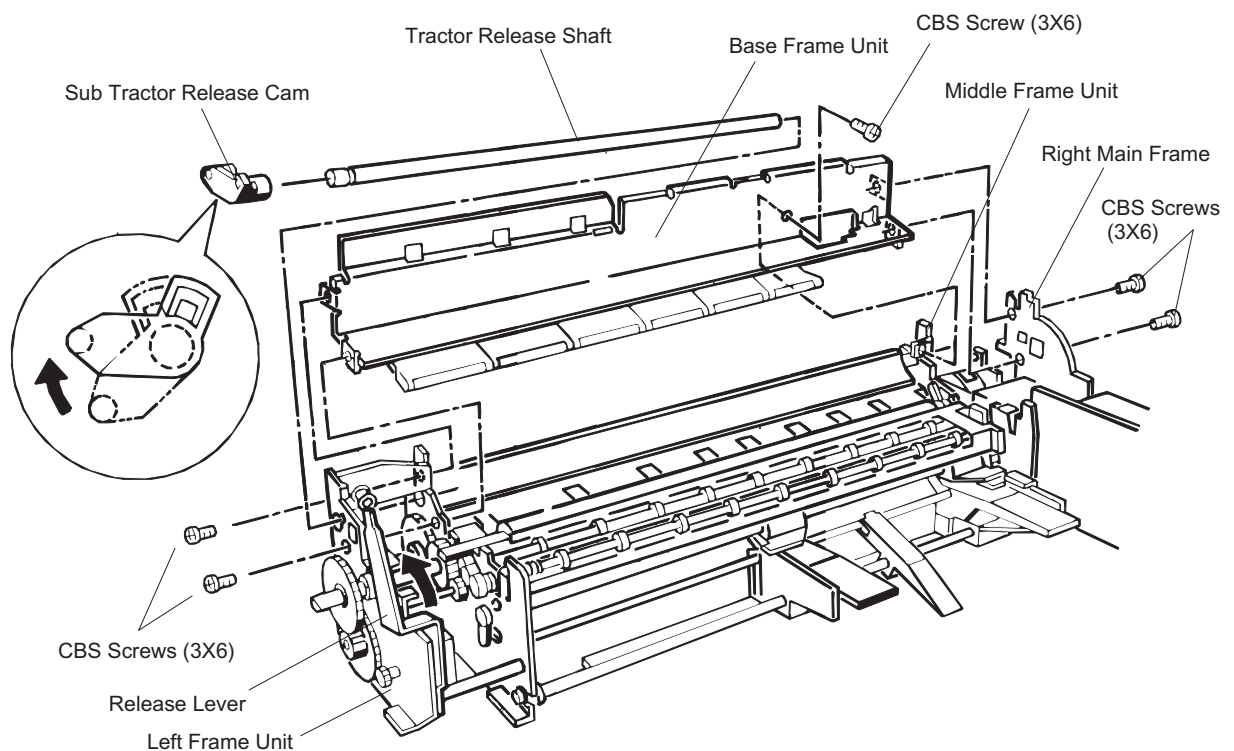

Figure 3-30. Base Frame Assembly Removal
5. Set the release lever to the tractor side and push the release transmission lever* inward. Then turn the sub tractor release cam as shown in Figure 3-30 until it fits into the cutout on the left frame unit. Then release the joint for the sub tractor cam and left frame unit.